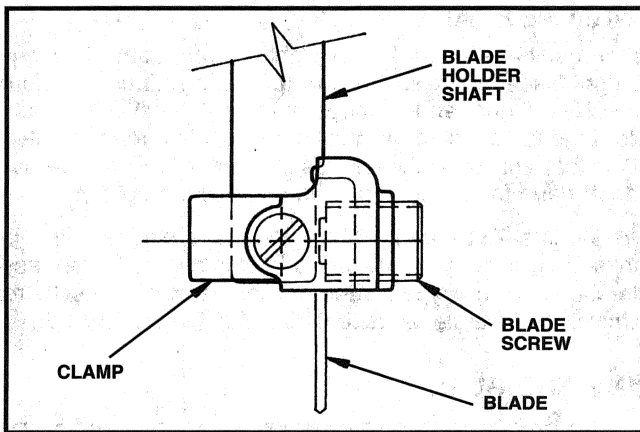

Fig. 2
3. Loosen blade screw, Fig. 2, approximately two turns with a screwdriver.